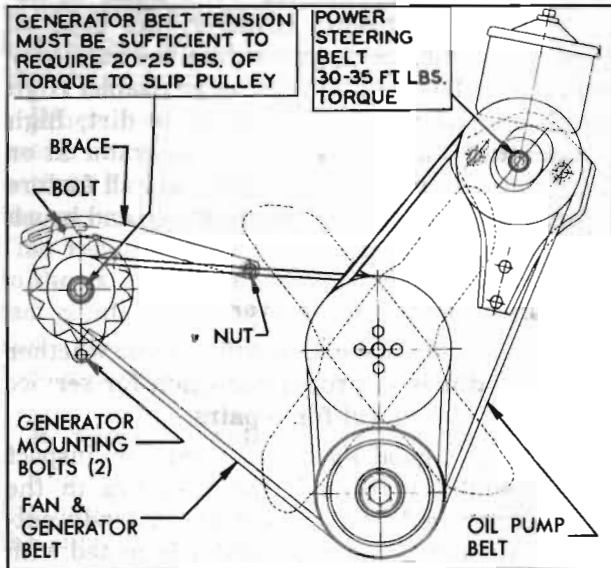

Figure 10-10—Generator Belt Adjustment
5. Check fan belt for condition and proper tension (fig. 10-10), and make certain that all generator mounting bracket and brace bolts are tight. A loose fan belt will permit belt slippage, resulting in rapid belt wear and low or erratic generator output. An excessively tight belt will cause rapid belt wear and rapid wear of generator and water pump bearings. **NOTE:** *If belt requires adjustment, first loosen belt so that generator pulley is free, then check pulley for tightness and check generator bearings for freeness of rotation and excessive side play. Tight or excessively worn bearings should be cleaned or replaced.*
4. If 35 amperes cannot be obtained at approximately 1100 RPM of engine check fan belt for proper tension (fig. 10-10). If fan belt is not slipping the generator does not have proper output. Remove generator for bench test (par. 10-24) and make necessary corrections before attempting any adjustment of generator regulator.
5. Before the engine is started, momentarily bridge between the "BAT" and "GEN" terminals of the generator regulator with a jumper wire or screwdriver. This allows a momentary surge of current from battery to generator, which correctly polarizes the generator with respect to the battery. Adjust fan belt as shown in figure 10-10.